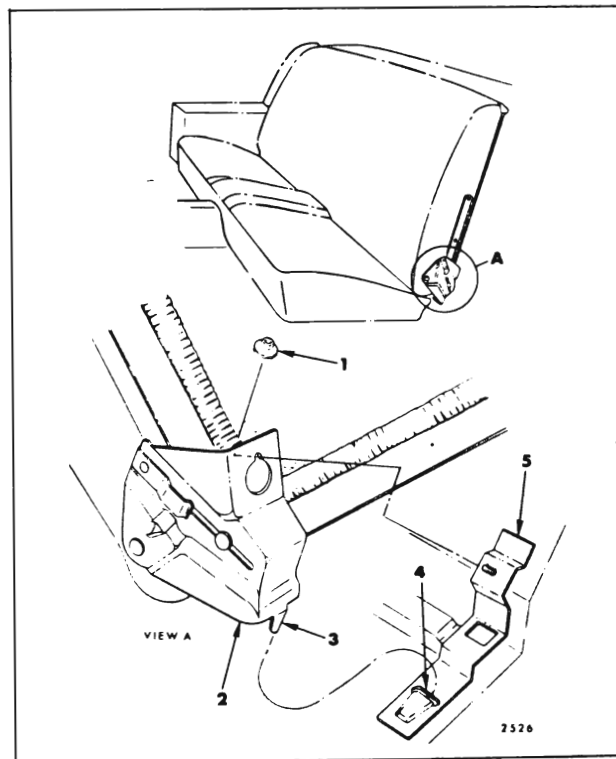

Fig. 15-44—Folding Rear Seat Back Assembly -
2. At both right and left seat back link remove stud nut securing seat back link to anchor plate on floor pan (Fig. 15-44).
3. Lift seat back assembly upward to disengage tab of link from slot in anchor plate (Fig. 15-44), and remove seat back assembly from body.